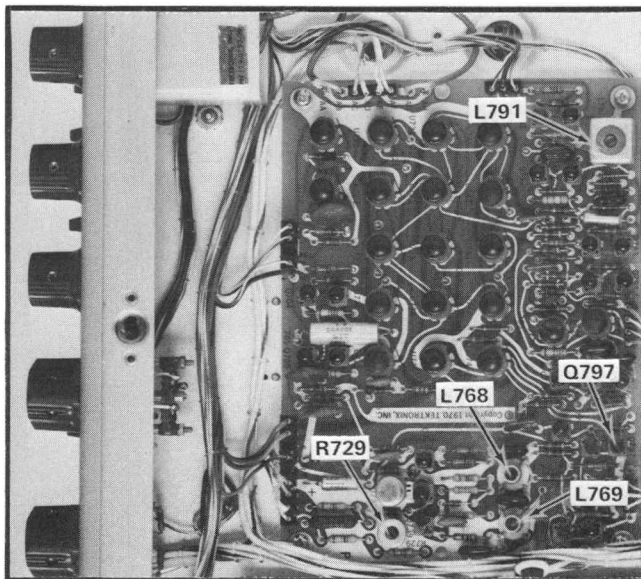

Fig. 6-19. Cross Hatch board adjustment locations.
e. Set the V2 Volts control for 549.1 mV, then ADJUST R739 (see Fig. 6-19) to align the peak of the lower display with the blanking level of the upper display.
c. ADJUST—L791 (see Fig. 6-19) for 17 pulses as described in step b.
b. ADJUST—L768 and L769 (see Fig. 6-19) for optimum square corner on the display.